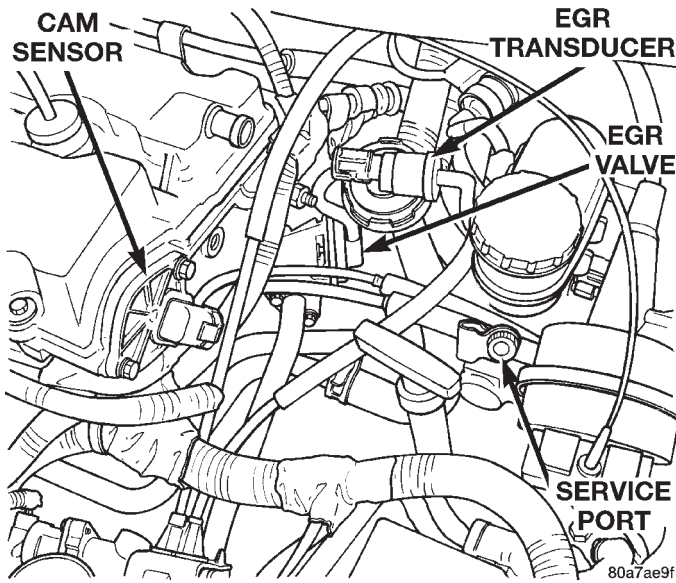
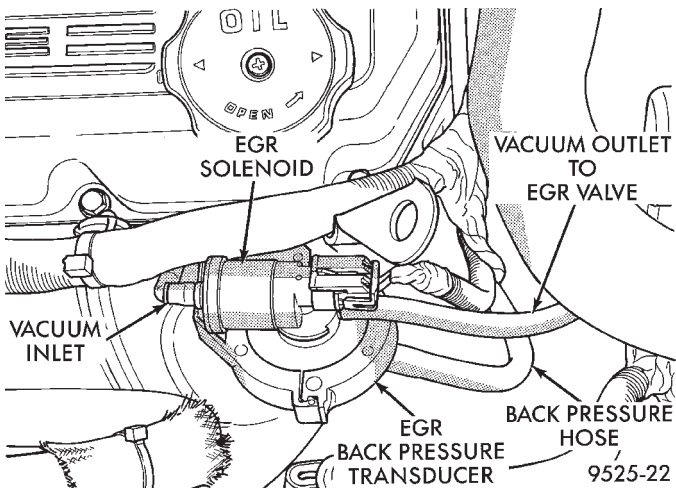

Fig. 54 Electronic EGR Transducer—2.4L Engine
Fig. 55 Electronic EGR Transducer—2.5L Engine
(18) Check electrical connector at Electronic EGR Transducer. Inspect vacuum and back pressure hoses at the solenoid and transducer for leaks (Fig. 54) or (Fig. 55).